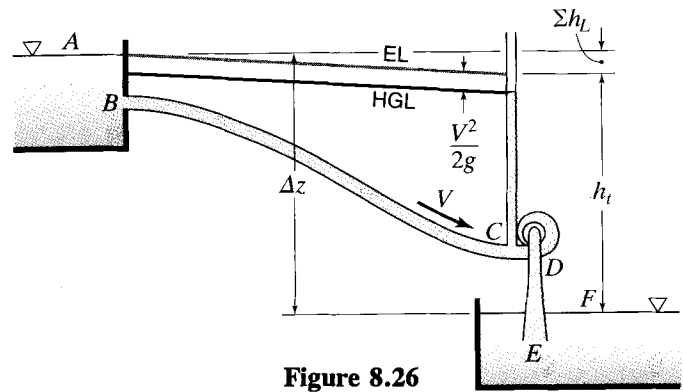

Figure 8.26
8.28.6 In Fig. 8.26 assume the pipe diameter is 300 mm, $f = 0.021$, $BC = 60$ m, and $\Delta z = 36.5$ m. The entrance to the pipe at the intake is flush with the wall, and discharge losses are negligible. (a) If $Q = 225$ L/s of water, what head does it supply to the turbine? (b) What power does the turbine deliver if its efficiency is 75 per cent?